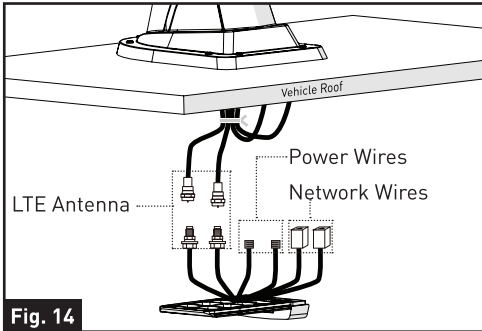

Fig. 14
2. Follow the wiring guidelines below to connect the cables from the interior of the RV ceiling. See "Wiring Diagram" section for detail. Fix the wires with nylon cable tie. (Fig. 14)